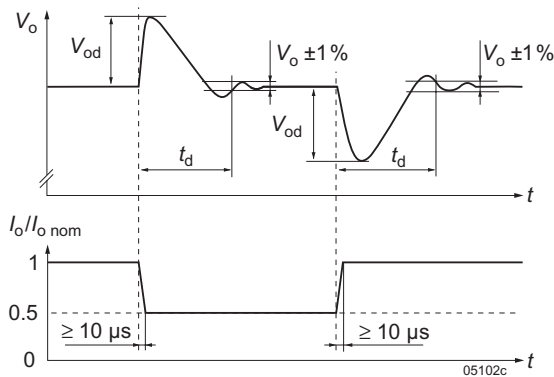

Fig. 13
2 See *Dynamic load regulation (fig. 13)*
- 4 See *Dynamic load regulation (fig. 13)*